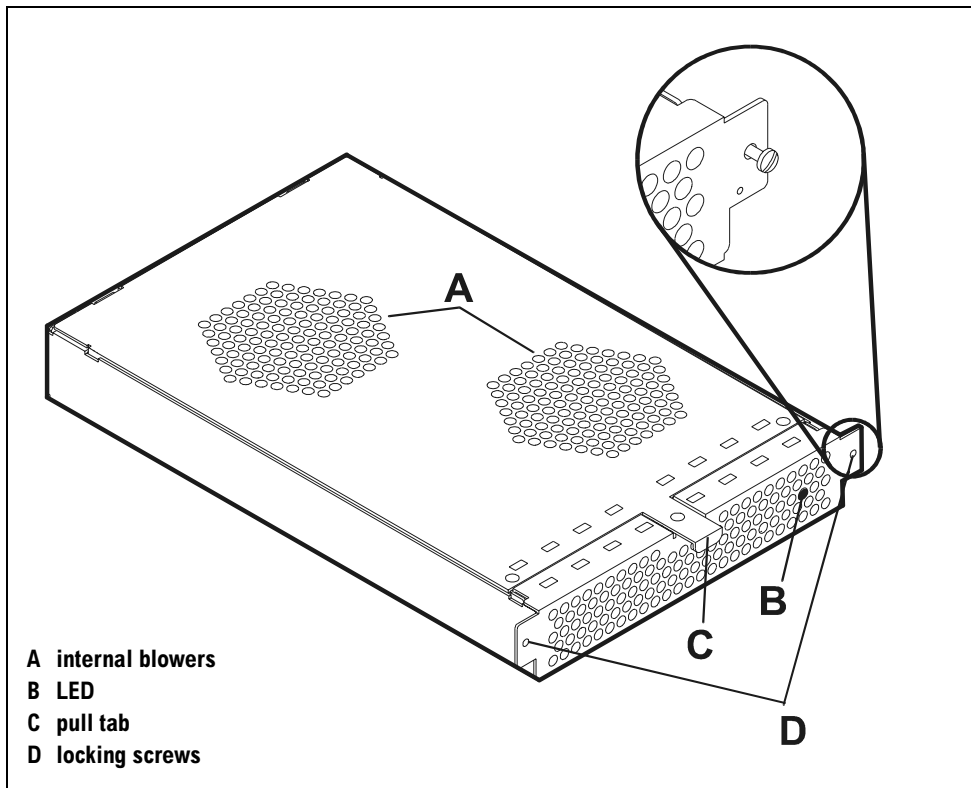

Figure 5 Fan
Redundant, hot-pluggable fans blow cooling air over system components. Each fan has two internal high-speed blowers (A in Figure 5), an LED (B), a pull tab (C), and two locking screws (D).